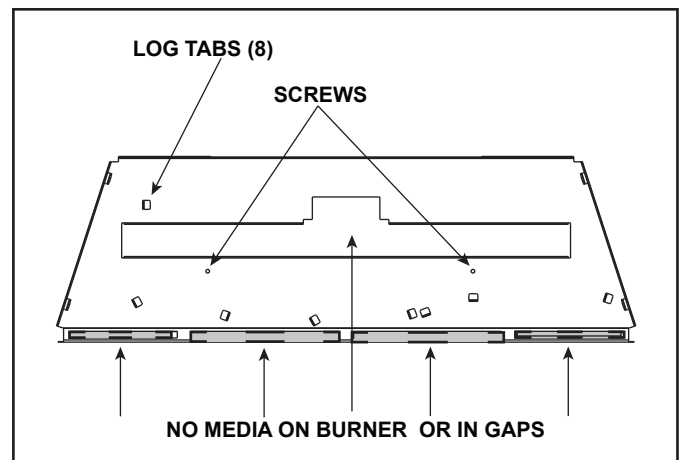

Figure 11.2 Empty Base Pan
9. Place lava rock onto areas of the base pan to fill in around the logs as desired. It is acceptable to completely cover the basepan. DO NOT cover burner, gaps behind burner or air tab. DO NOT block the space in front of the pilot assembly. See Figure 11.2. Place lava rock in a single layer so no sheet metal is showing. Figure 11.10 shows lava rock properly placed in relation to logs and areas that must be avoided.